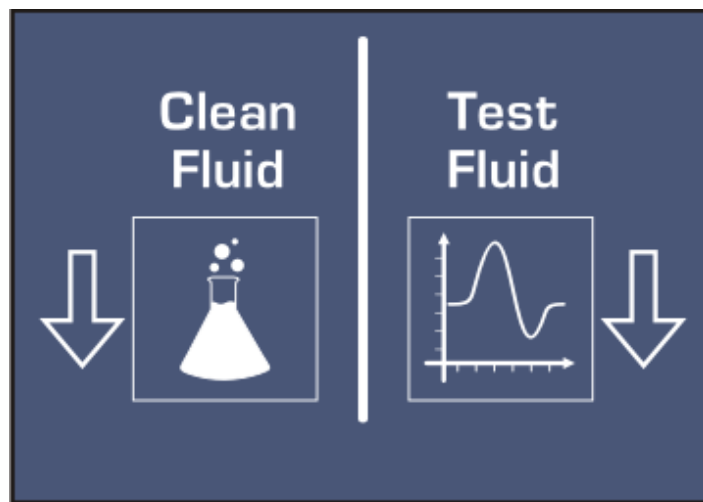

Figure 5-i
The CRU.2 comes with half a tank of Testing fluid (Diesel Calibration oil) and an empty tank of Cleaning fluid. The machine tank indicators, filters and drain valves are divided into two parts, left/right and are shown on the rear panel of the machine (Figure 5-i).
- In order to fill the Testing tank up to acceptable level, you must use the accompanied funnel and pour liquid through the Large Spray Chamber (Figure 5-ii).